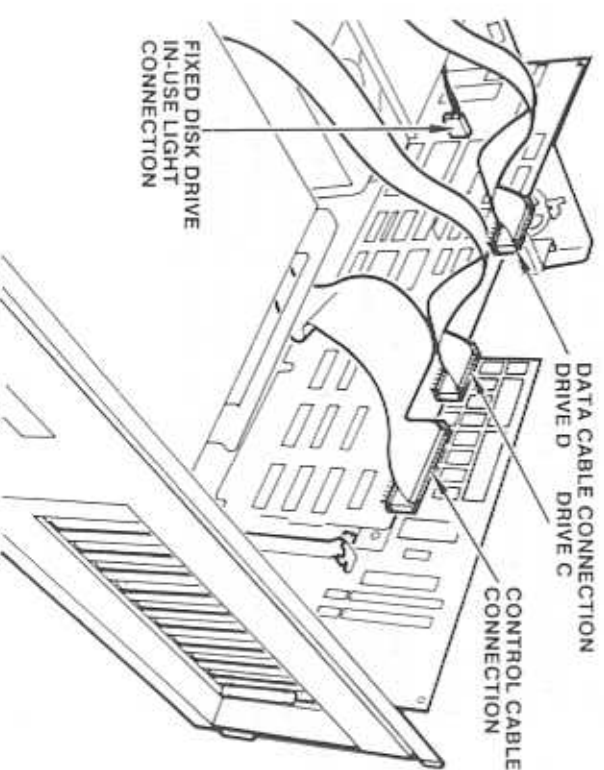

Figure 11-23. Drive In-Use Light and Cable Connections
14. If the fixed-disk drive controller board is already installed, continue with this step. Otherwise, go to the section on installing the fixed-disk drive controller board. Attach the data cable from drive D to the drive controller board. The red stripe, indicating pin 1, faces the controller boards (Figure 11-23).
3. Connect the fixed-disk drive in-use light connector to the controller board (Figure 11-23). The connector may be turned either way, but all four pins must line up with the connector.
6. Attach the control cable to the controller board (location J1) as shown in Figure 11-23, with the red stripe on the cable toward the front of the system unit.
7. Attach the data cable for drive C to the controller board (location J2) as shown in Figure 11-23, with the red stripe on the cable toward the front of the system unit.
8. If a fixed-disk drive D is installed, attach its data cable to the controller board (location J3) as shown in Figure 11-23, with the red stripe on the cable toward the front of the system unit.